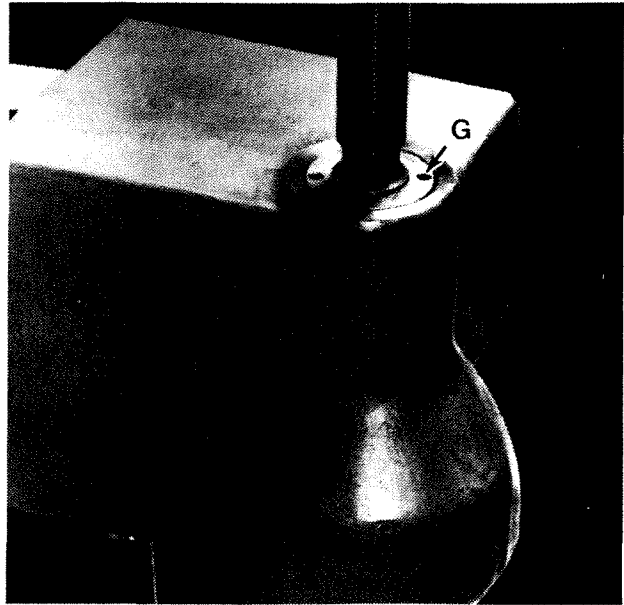

Figure 3.33 - Vertical Screw Retaining Nut
10. Remove nut "G", Figure 3.33, with an adjustable spanner wrench.
7. Install nut "G", Figure 3.33, using an adjustable spanner wrench.